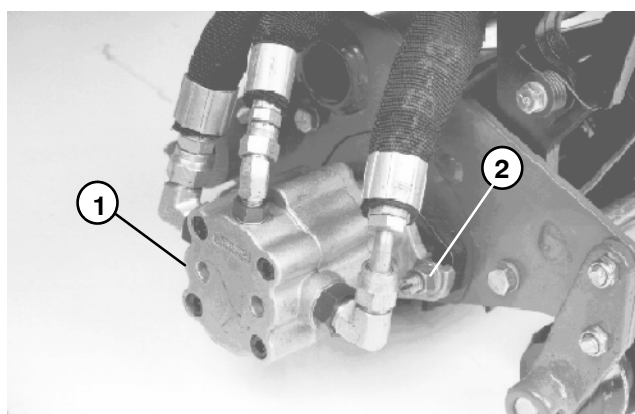

Figure 90
3. Loosen motor mounting nuts (Fig. 90).